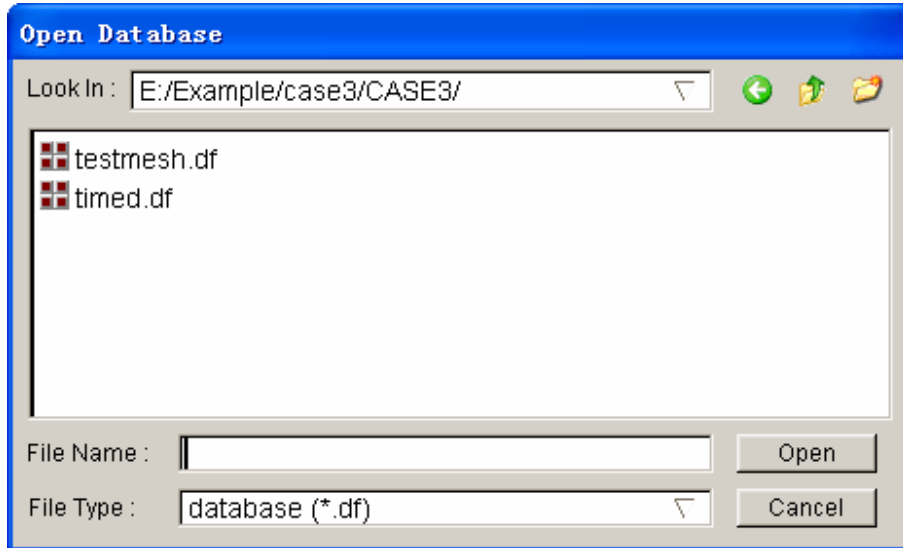

Figure 3.2.2 Open File Prompt
- The user can open a DYNAFORM database by selecting a file name in the open file dialog window. The OPEN DATABASE dialog window is shown in Figure 3.2.2.